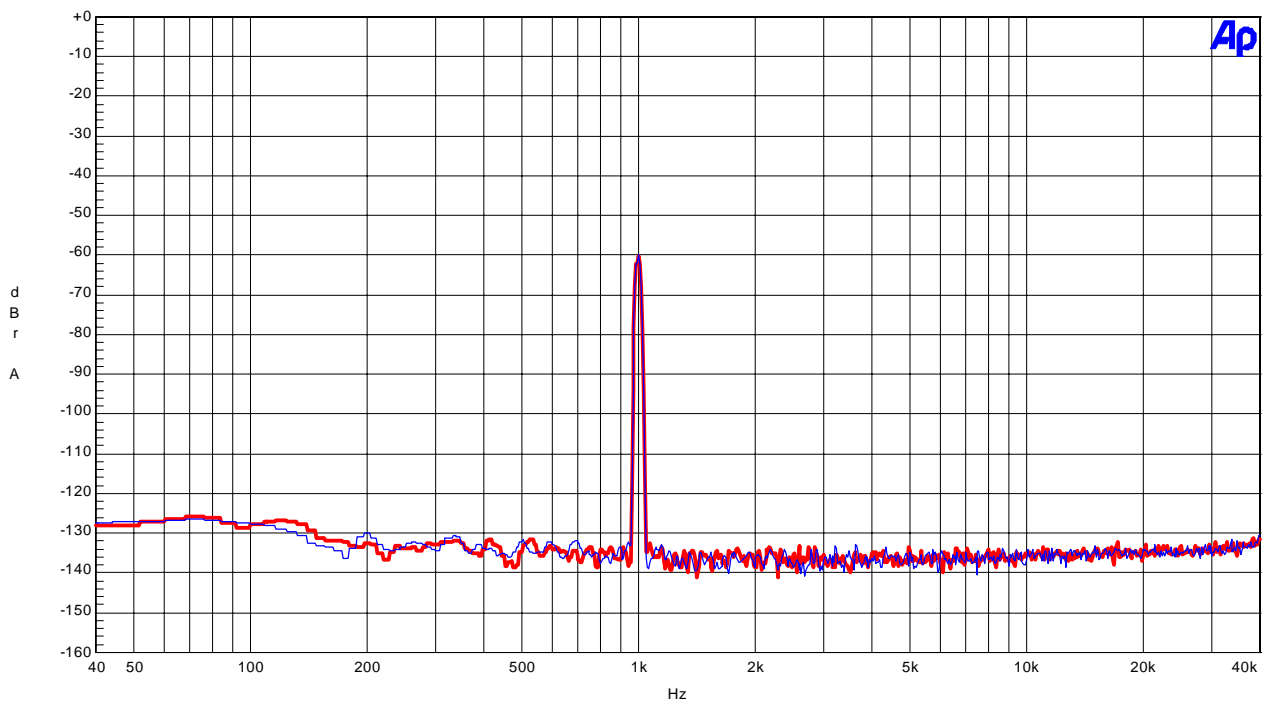

Figure 11. FFT (1kHz, -60dBFS input)
- Figure 11. FFT (1kHz, -60dBFS input)